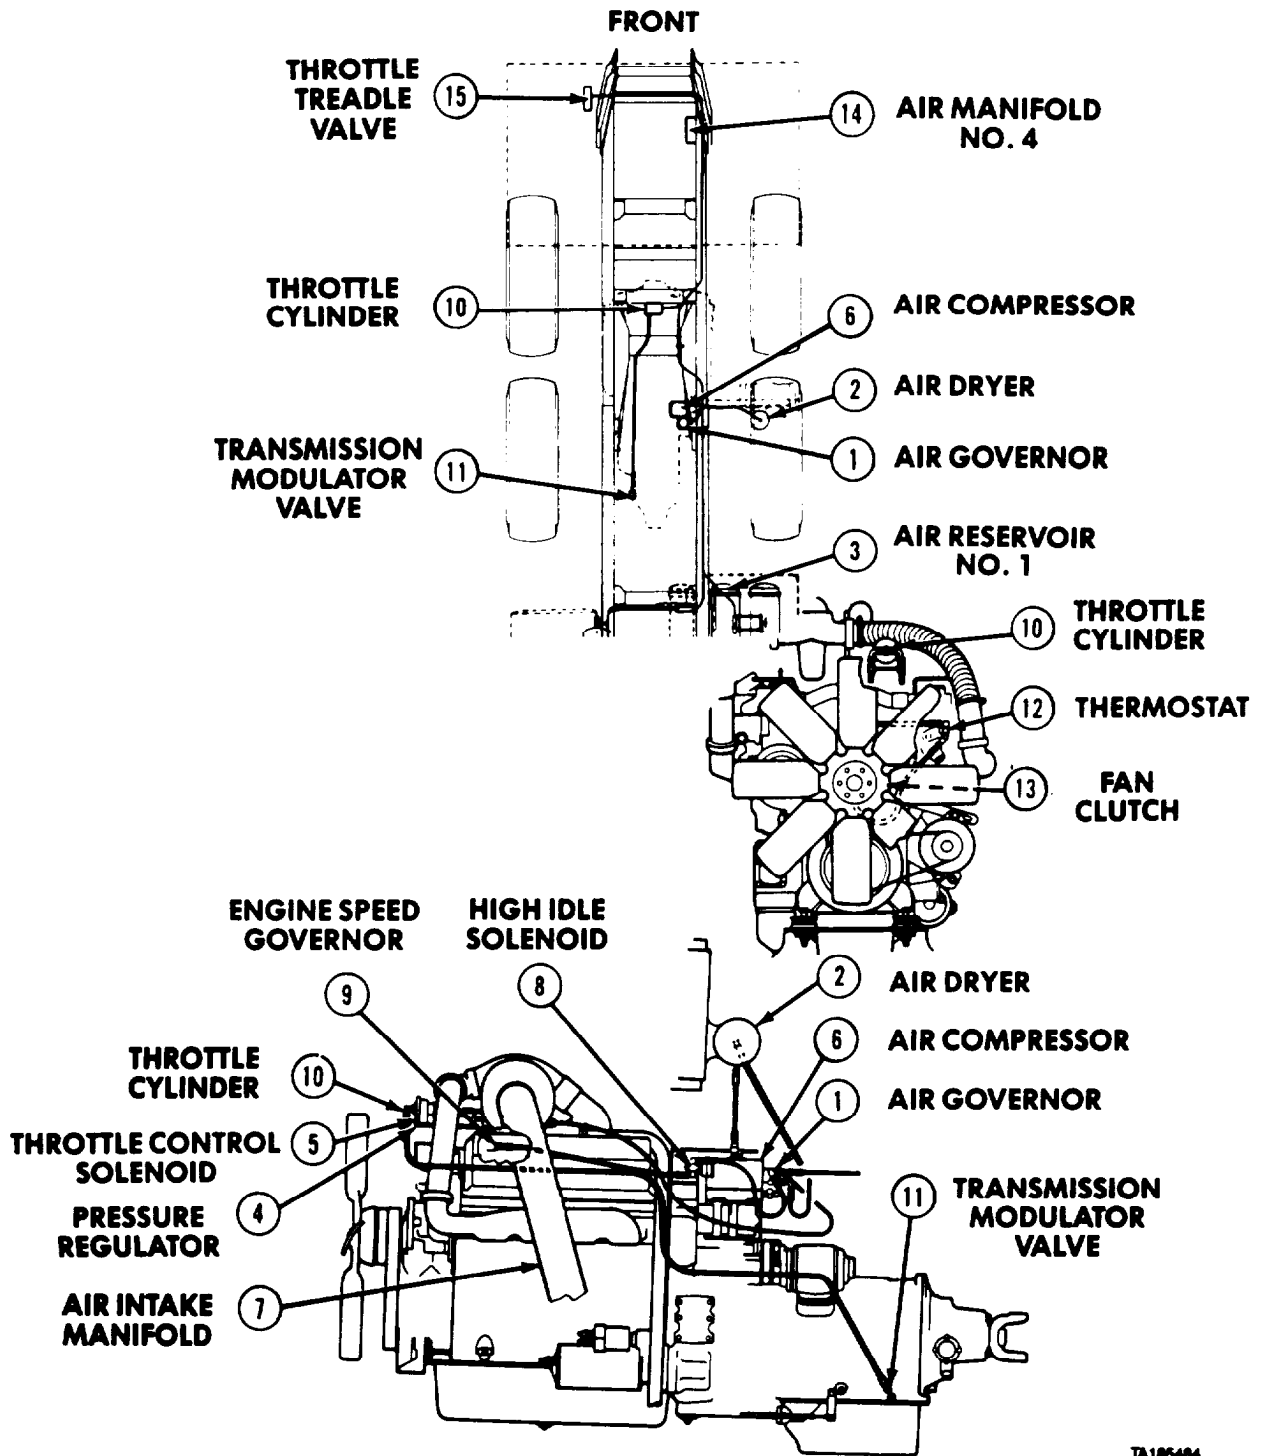

Figure 11-1. Engine Airhoses.
- This section consists of Hose Indexes, Tables 11-1 through 11-5, and diagrams to help locate ends of all airhoses on the M977 series vehicles (figs. 11-1 through 11-6). Hose numbers on Tables 11-1 through 11-5 are from AIR SCHEMATIC, FO-2, located at end of manual.
| 159 M984E1 Only | Air Reservoir No. 1 Safety Valve (60) | | Air Governor (1) (Figure 11-1) |